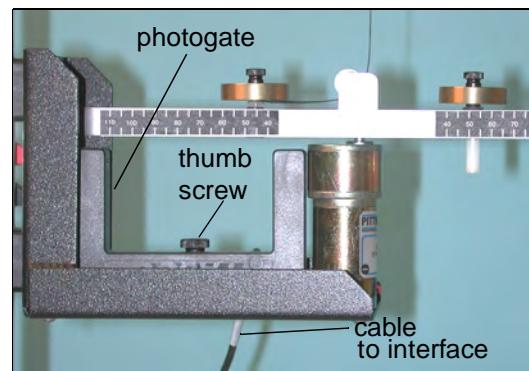

Figure 4: Photogate on base of Centripetal Apparatus
4. Use a thumbscrew to mount a Photogate Head (ME-9498A) to the bottom base of the Centripetal Force Accessory (See Figure 4).